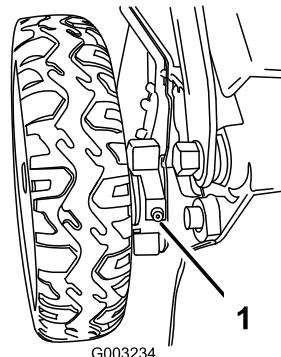

Figure 37
- Wipe the grease fittings just inside the rear wheels with a clean rag (Figure 37).